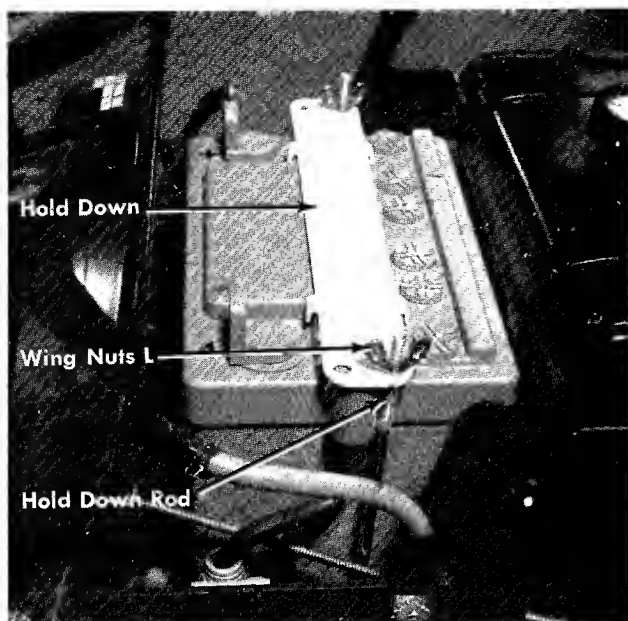

FIGURE 5.
- Step 1. Place the battery in the battery case with the terminals to the rear. (See figure 5.)
- Step 3. Secure the hold down with the wing nuts "L". Tighten hand tight. (See figure 5.)